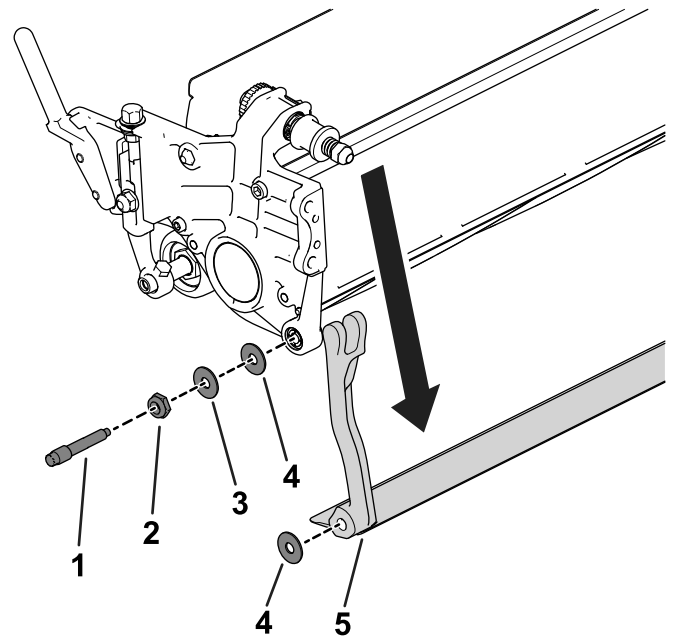

Figure 19
3. On each side of the machine, loosen the locknut shown in Figure 19.
4. Remove each bedbar bolt, allowing the bedbar to be pulled downward and removed from the cutting unit (Figure 19).
Account for the 2 steel washers and 1 plastic washer on each end of the bedbar (Figure 19).
3. Position a nylon washer on each side of the side-plate boss. Place a steel washer outside each of the nylon washers (Figure 19).